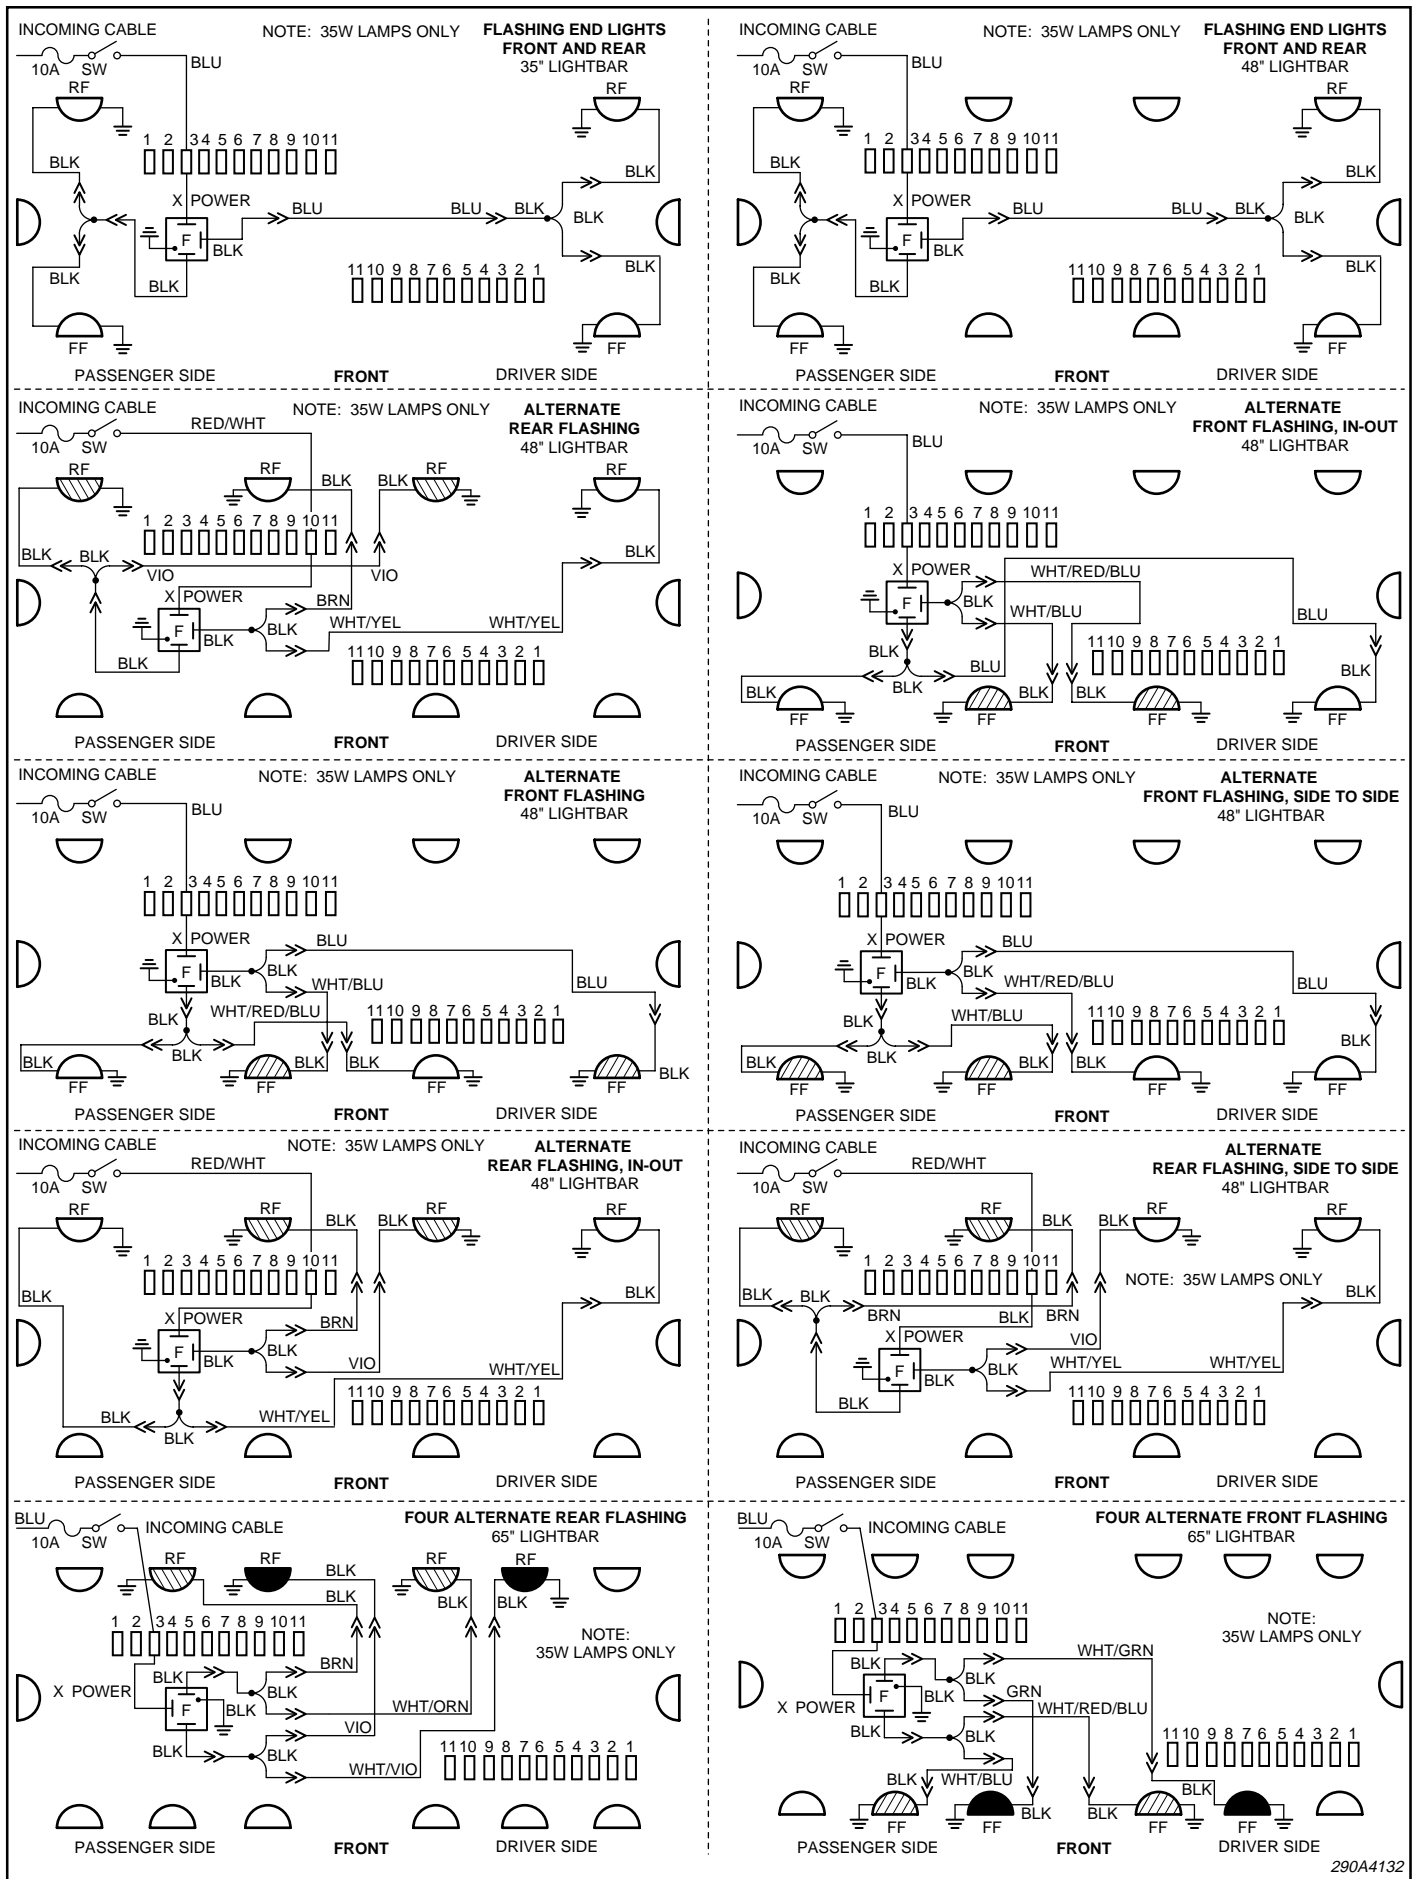

Figure 5.
- See the applicable wiring diagram in figure 5. Using the "Y" cables and applicable wires in the lightbar's wiring harness, attach the female terminal on each stationary light assembly's black wire to the appropriate terminals of the molded-in terminal strip.